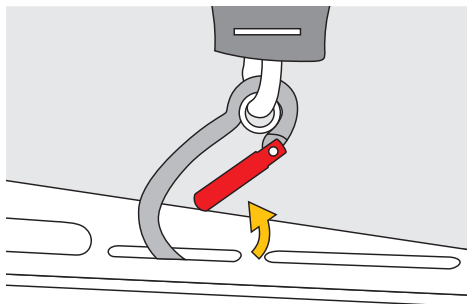
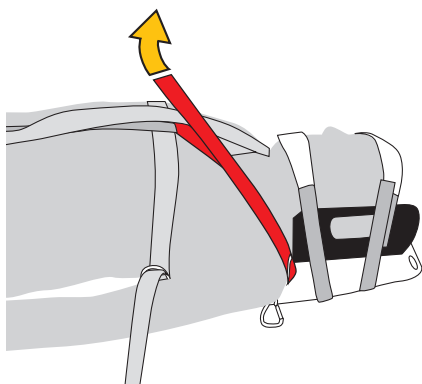

Fig.14
Fig.16
c) fasten the red straps (shoulders and torso) by hooking the connectors to the slots on the board, as shown in figs. 14 e 15, and tighten them slightly by using the buckles (figs. 16 e 17),